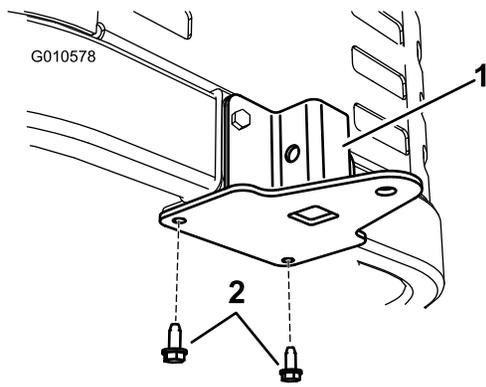

Figure 11
- Secure the support bracket to the bottom of the machine frame from below using two self tapping screws (5/16 x 3/4 inch) as shown in Figure 11.